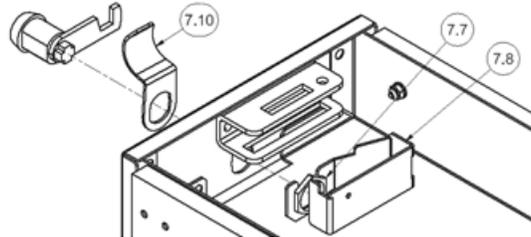

Figure 1
- The Drawer is shipped with the #7.10 Finger Pull installed in the upward position. If you prefer, it may be oriented downward by removing the lock from the Drawer and inverting. This is done by removing the #7.7 brass Lock Retention Nut using a 7/8" wrench (accessed from the slot below), removing the Nut and #7.8 Lock Cover (which may be bent out of the way once the Nut is loosened). Then you can remove the Lock, invert the Finger Pull, and reassemble. **Note:** Make sure the tab on the Lock Cover is inserted into the latch slot before tightening the Retention Nut during reassembly. (Figure 1)